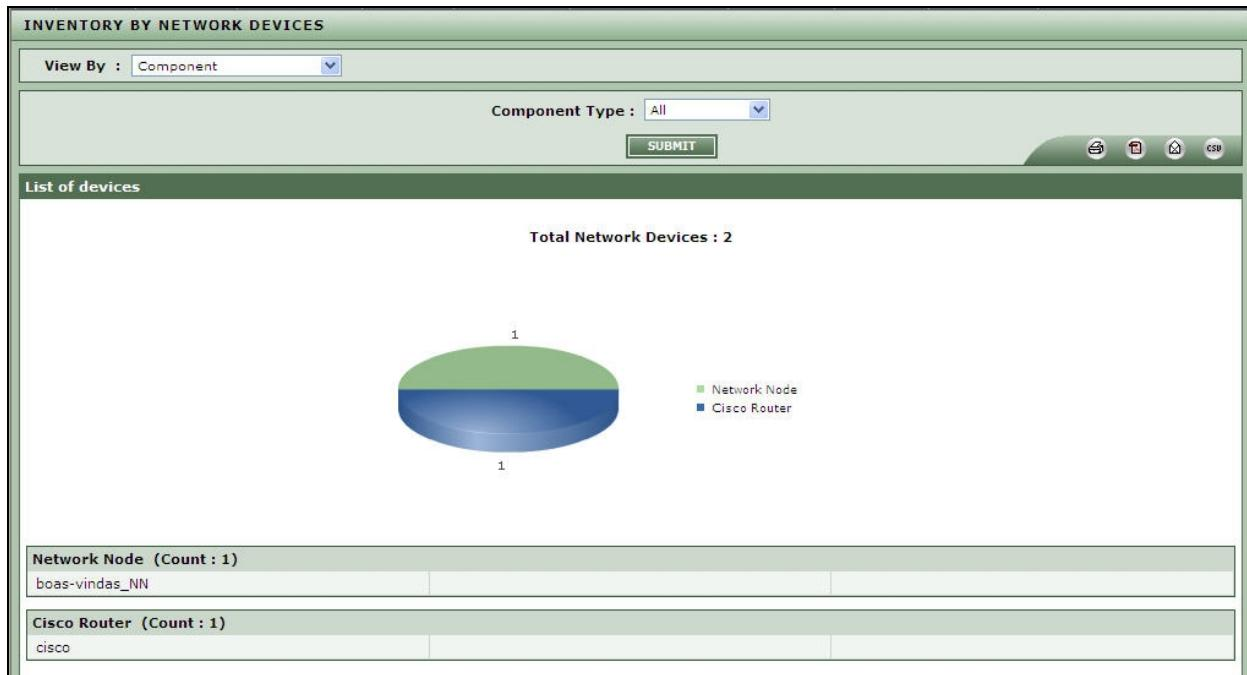

Figure 2.5: The details of all network devices that are in use in the environment
2. Figure 2.5 will then appear. By default, Figure 2.5 reveals the details of all managed network
3. If the **Component Type** chosen is **All**, then, Figure 2.5 will provide a pie chart depicting the distribution of network devices on the basis of the device type. Using this pie chart, you can understand, at a glance, the number and nature of network assets that are being maintained by the environment.